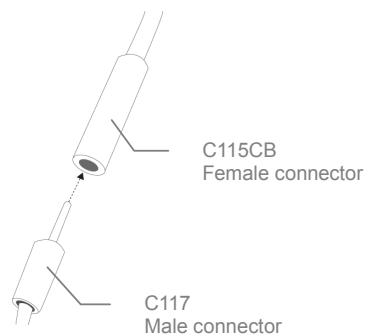

Fig. 3 C115CB and C117
6. Connect the male connector of a hook cable C117 to the connector cables C115CB (Refer to Fig. 3).